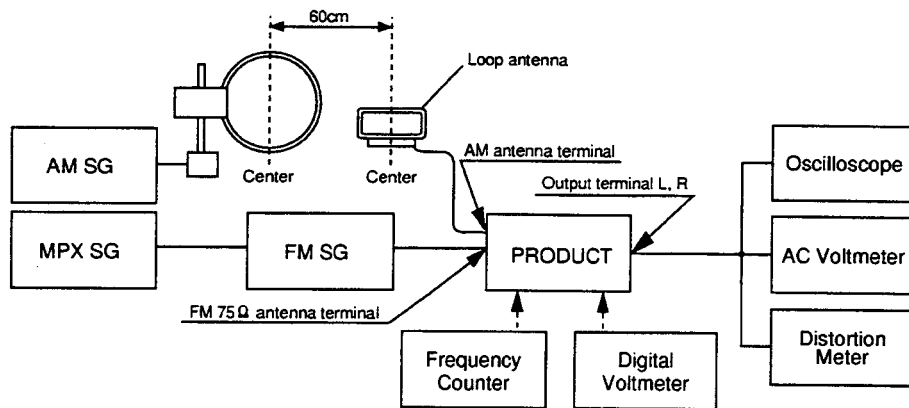

Fig. 7-1-1 AM and FM adjustment wiring diagram
1. Wiring ..... Connect the wires as shown in Fig. 7-1-1 (FM ANT. terminal: 75Ω).